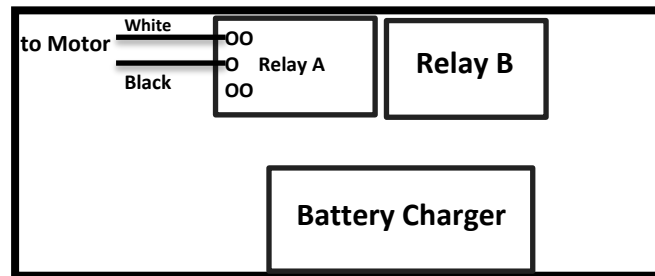

Figure 52: Motor Wires at Relay A
4. If all the switches don't work the motor may be bad. Open the battery charger cover and find relay A (Page 18, Figure 18, and Figure 52 below). Disconnect the black and white wires shown in Figure 52. With a multimeter, check for continuity between these wires (from the motor). If you have continuity, the motor is OK. If not, the motor is bad and will have to be replaced (Page 28). To order a new motor, contact SSCI Customer Service and order P/N 854833.